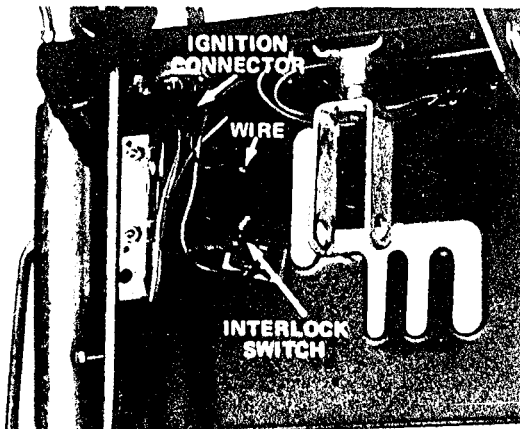

Figure 14
2. Push ignition connector onto ignition switch terminals (Fig. 14).
3. The ignition connector has a single wire that is free. Push the terminal at end of single wire onto top terminal of wheel drive control interlock switch (Fig. 14).